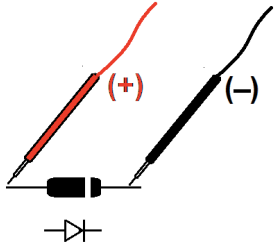

Fig.2
5-A When connected with polarity as shown in Fig. 2, a forward current flow is established and the approx. DIODE forward voltage (VF) values in volt will display on the display reading.